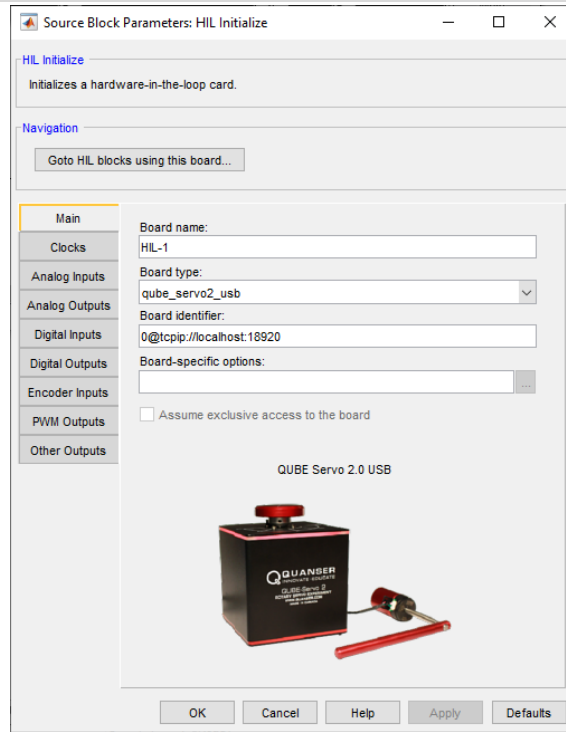

Figure 1: Example of a HIL Initialize block configured for a QUBE-Servo 2
1. Locate and open the **HIL Initialize** block in the model. As shown in Figure 1, go to the **Main** pane and ensure the **Board type** corresponds to your product is selected, as listed in Table 1.